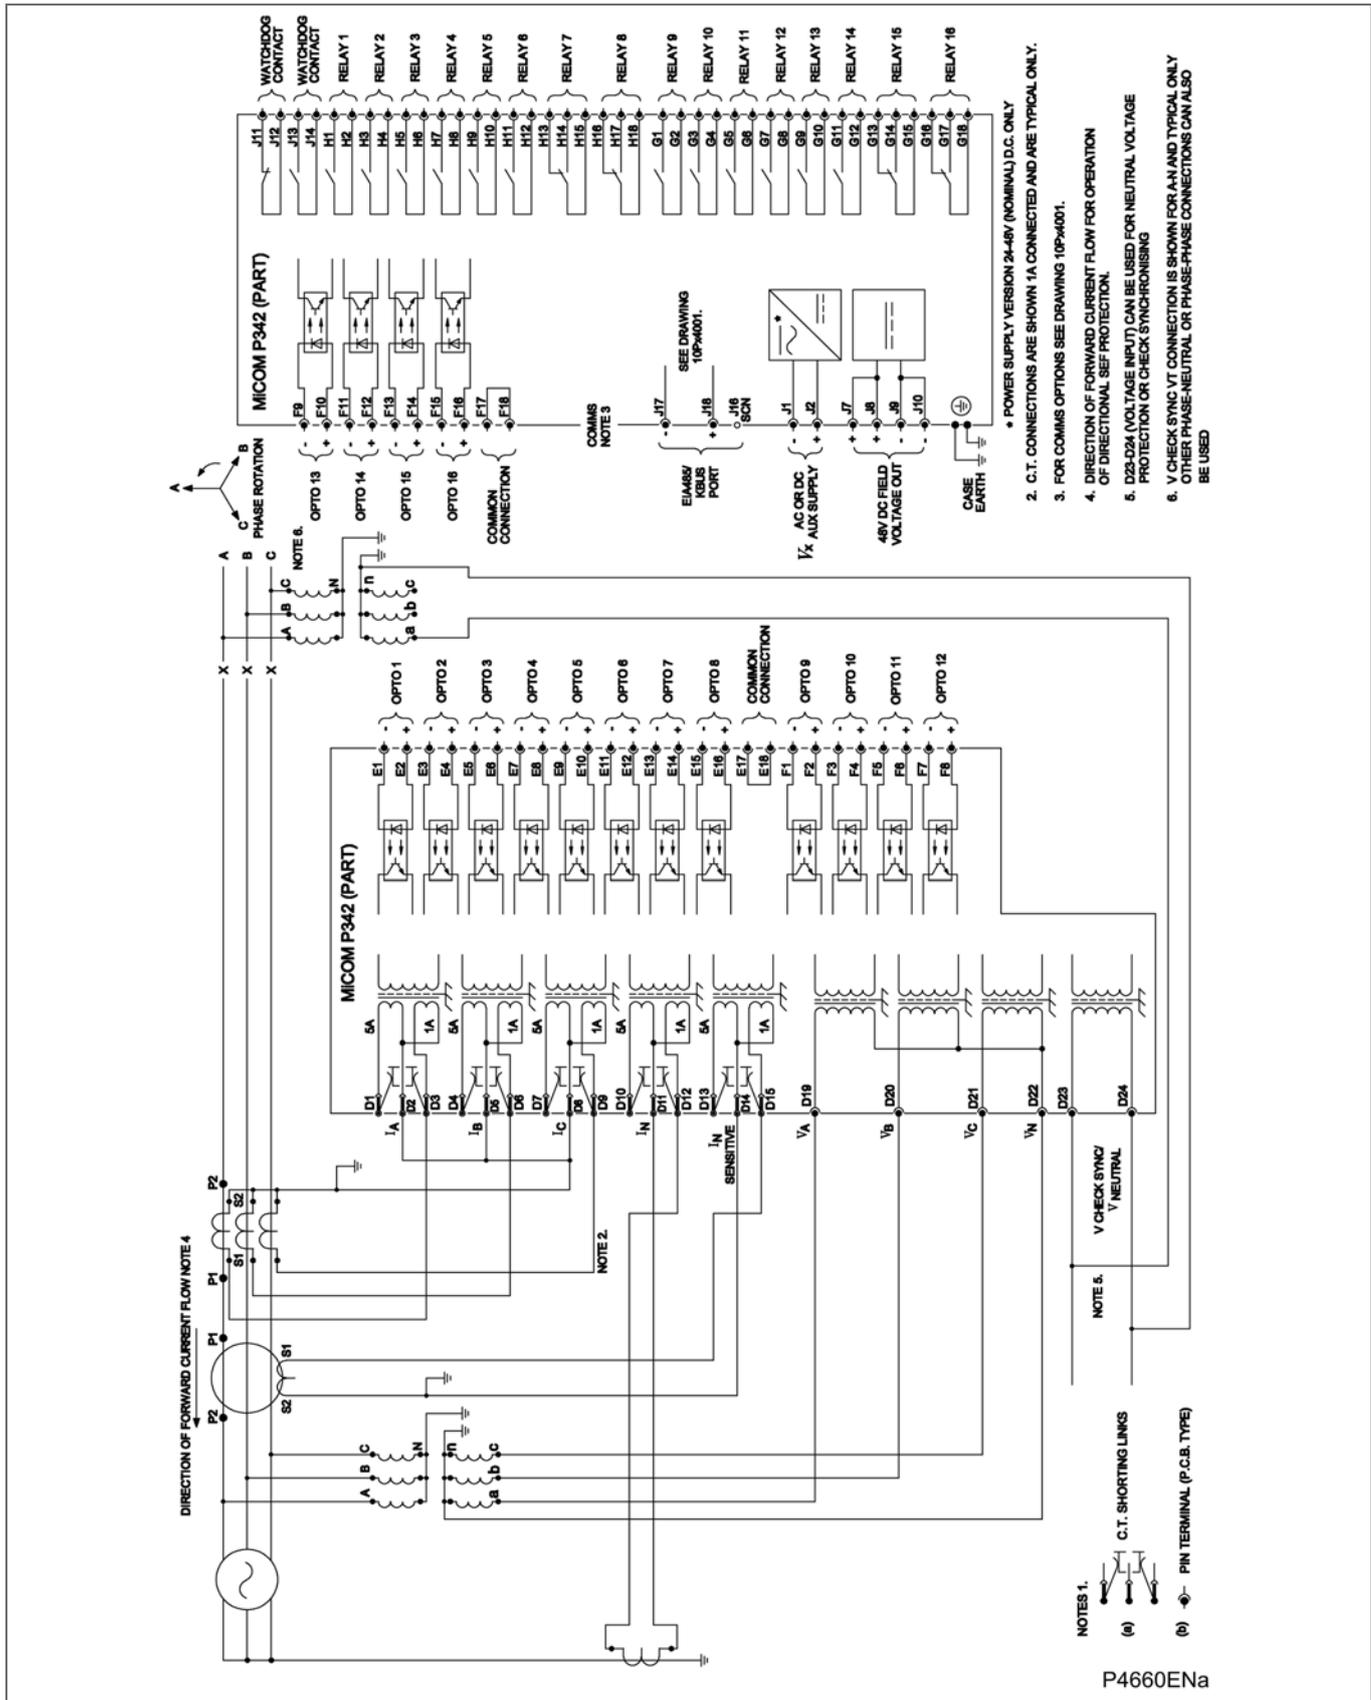

Figure 41 - P342 (40TE) for small generator with check synchron (8 I/P & 7 O/P)
- Figure 41 - P342 (40TE) for small generator with check synch (8 I/P & 7 O/P)